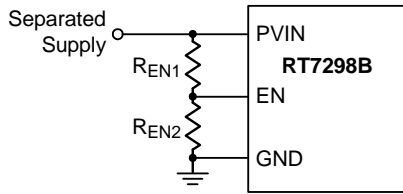
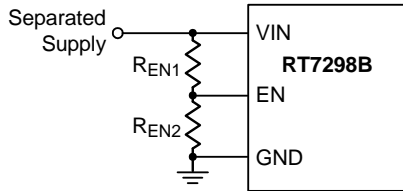
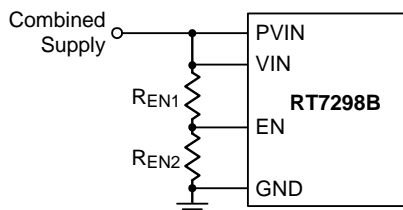

Figure 4. Resistor Divider for PVIN UVLO Setting
Figure 5. Resistor Divider for VIN UVLO Setting,
Figure 6. Resistor Divider for PVIN and VIN UVLO
The EN pin can also be applied to adjust its Under-Voltage Lockout (UVLO) threshold with two external resistors divider from the both input VIN and PVIN pins used together or separately, and the application structures can refer to Figure 4, Figure 5, and Figure 6.
Under above application structures, the adjustable UVLO function of EN pin allows to achieve a secondary UVLO on PVIN pin, a higher UVLO on VIN pin or even a common UVLO on both VIN and PVIN pins. For example, if the EN pin is configured as Figure 5 and the output voltage is set to a higher value 10V. The device may shut down after soft-start sequence is over, and the reason for the result is that the VOUT is still lower than its set target during the VIN rising period even though VIN has already risen to its internal UVLO threshold 4V. To prevent this situation, an adjustable UVLO threshold from EN pin is useful to avoid such high output transfer condition. The exact UVLO thresholds can be calculated by Equation (3). The setting VOUT is 10V and VIN is from 0V to 18V. When VIN is higher than 12V, the device is triggered to enable the converter. Assume REN1 = 56kΩ. Then,